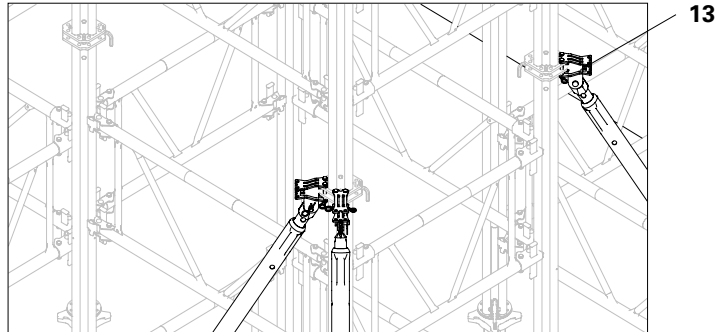

Fig. A5.03a
4. Install push-pull props at the prop joints. (Fig. A5.03a)